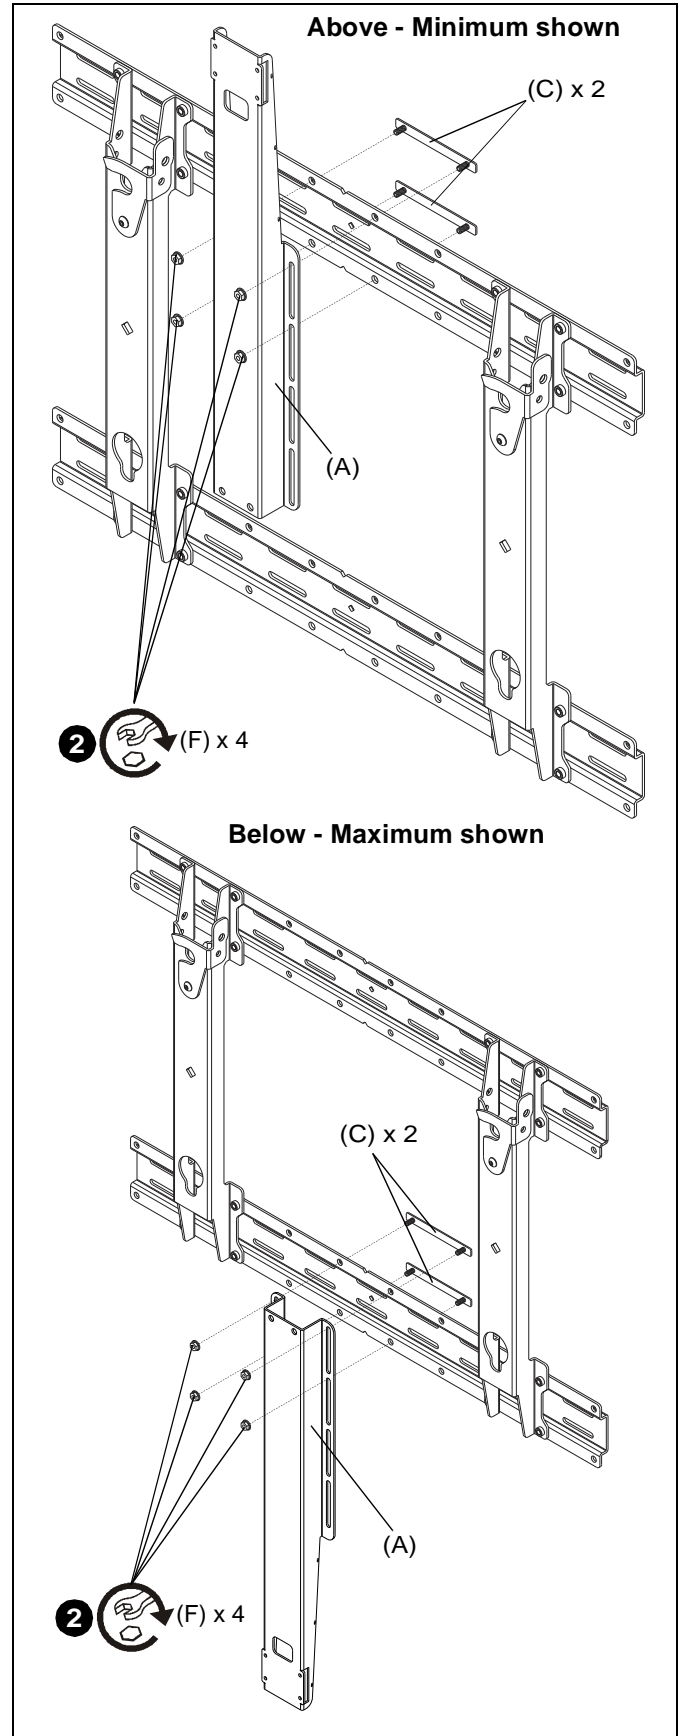

Figure 2
2. Use four 5/16-18 flange hex nuts (F) and two bolt plates (C) to secure shelf support (A) to PSMH mount at desired mounting height. (See Figure 2)